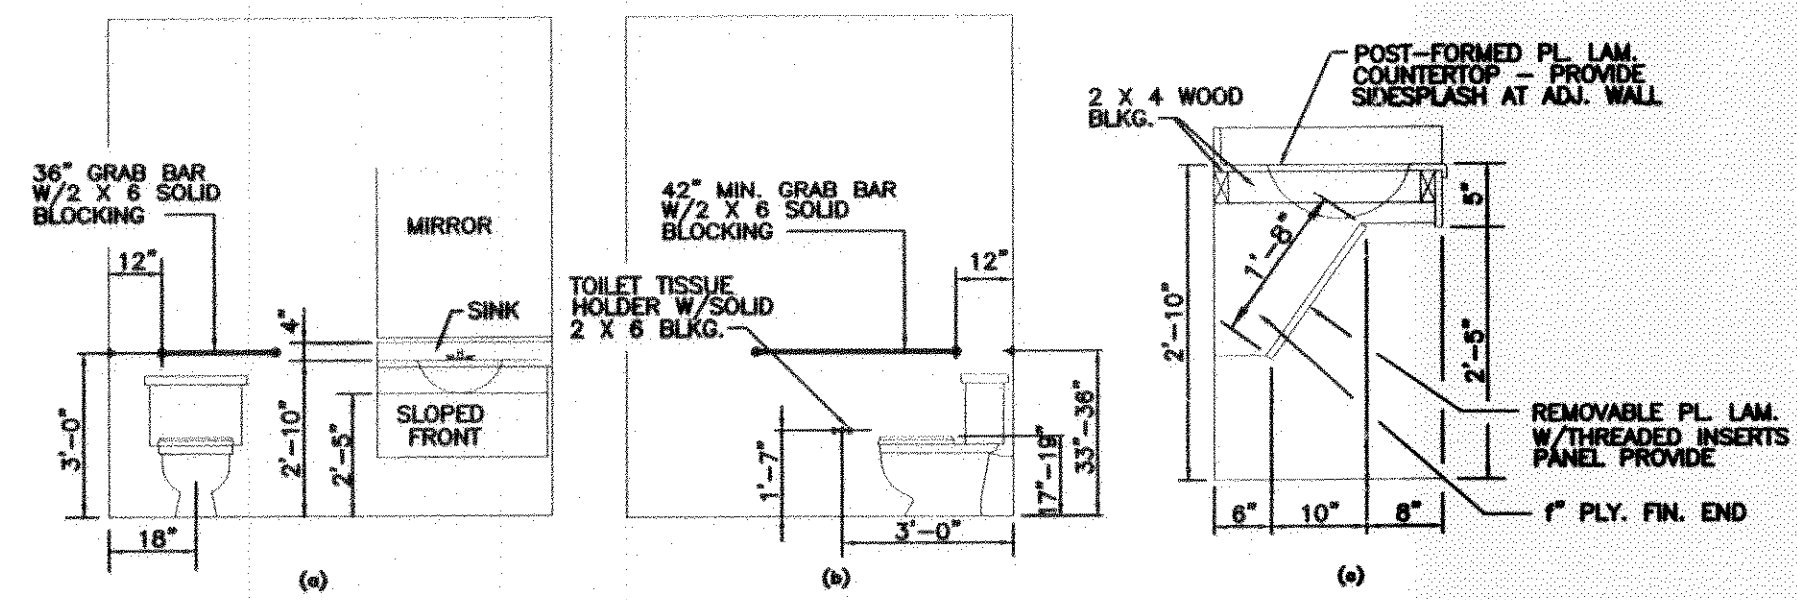

FIG. 31 LAVATORY & WATER CLOSET CLEARANCES
- 4.16.3 HEIGHT. THE HEIGHT OF WATER CLOSETS SHALL BE 17" TO 19" (430mm TO 485mm), MEASURED TO THE TOP OF THE TOILET SEAT. SEATS SHALL NOT BE SPRUNG TO RETURN TO A LIFTED POSITION (SEE FIG. 31).
- 4.16.4 GRAB BARS. GRAB BARS FOR WATER CLOSETS NOT LOCATED IN STALLS SHALL COMPLY WITH 4.28 AND FIG. 31. THE GRAB BAR BEHIND THE WATER CLOSET SHALL BE 36" (915mm) MINIMUM.
- 4.16.6 DISPENSERS. TOILET PAPER DISPENSERS SHALL BE INSTALLED WITH REACH AS SHOWN IN FIG. 31. DISPENSERS THAT CONTROL, DELIVER, OR THAT DO NOT PERMIT CONTINUOUS PAPER FLOW, SHALL NOT BE USED.